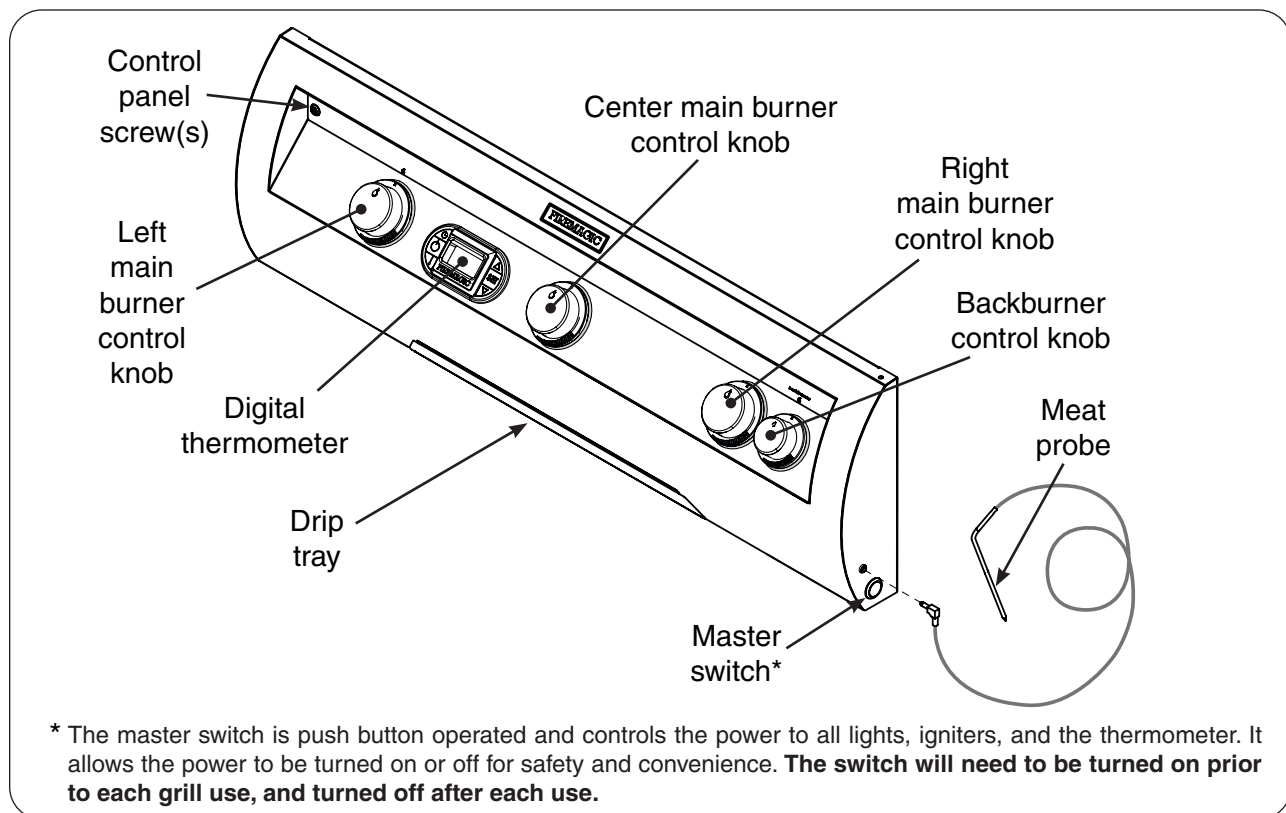

**Fig. 25-1** Electrical installation
1. Route the wire harness extension below the control panel and directly downward. This will prevent overheating. **DO NOT** route the wire extension below the grill. See Fig. 25-1, A.
2. Mount the power supply box to the inside of the enclosure using appropriate hardware for your enclosure. It **MUST** be located at least 12 inches below the bottom of the unit. See Fig. 25-1, B.
3. Connect the cord coming from the power supply to a **120VAC (15 AMP minimum) GFCI GROUNDED 3-wire receptacle** (see Fig. 25-1, C). The GFCI receptacle must be a WEATHER-PROOF IN-USE COVERED RECEPTACLE.